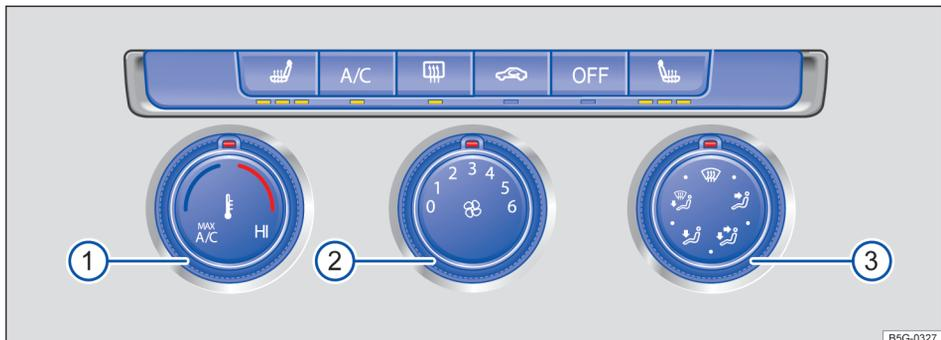
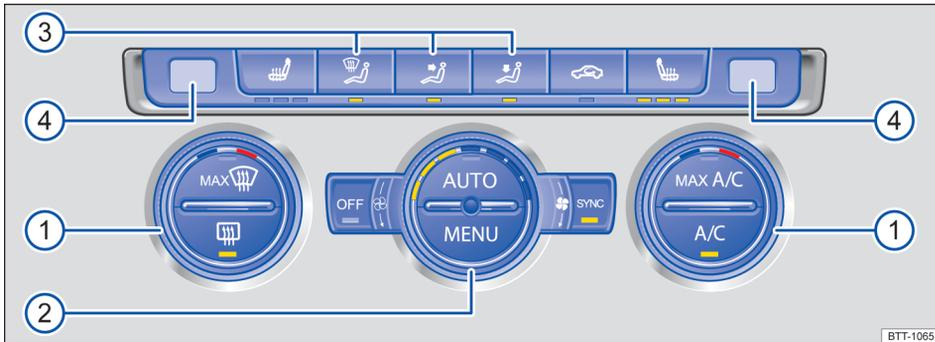

Fig. 88 In the center console: Manual controls.
Fig. 89 In the center console: Climatronic controls.
- *Manual air conditioning:* Turn the fan knob to 0 → fig. 88 ②.
- *Climatronic:* Turn the fan knob as far left as it will go → fig. 89 ②
- **OR:** Press the **(MENU)** button on the Climatronic controls → fig. 89 ② to open the Climatronic menu in the Infotainment system and switch the system off.
- *Manual air conditioning:* Turn the temperature knob → fig. 88 ① all the way to the left (maxA/C position).
- *Manual air conditioning:* Turn the temperature knob → fig. 88 ① to set the temperature.
- *Climatronic:* Turn the outside knobs → fig. 89 ① to set different temperatures for the driver and passenger sides. The displays above the knobs **④** show the set temperature.
- Turn the middle knob → fig. 88 ② or → fig. 89 ② to adjust the fan speed.
- *Manual air conditioning:* Turn the knob → fig. 88 ③ to direct air flow in the desired direction.
- *Climatronic:* Press the buttons → fig. 89 ③ to direct air flow in the desired direction. When automatic regulation (**AUTO**) is switched on, air flow is automatically adjusted to a comfortable level. Options vary, depending on equipment:
- *Manual air conditioning:* Turn the right knob to position  → fig. 88 ③ to defrost the windshield as quickly as possible. The cooling system switches on automatically to dehumidify the air. When the defrost function is switched on, the air recirculation mode cannot be switched on.
- *Climatronic:* Press the **max**  button → fig. 89 ① to defrost the windshield as quickly as possible. The incoming outside air is directed to the windshield, and air recirculation automatically switches off. Humidity is removed from the air at temperatures above about +35 °F (+1.5 °C), and the blower is set to a high speed.